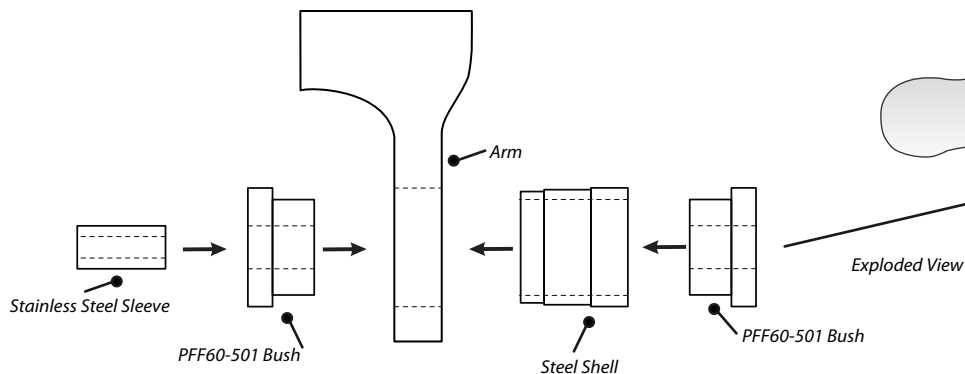

Figure 2
2. Press the steel outer shell into the arm from as shown in figure 2, ensuring the orientation is correct.